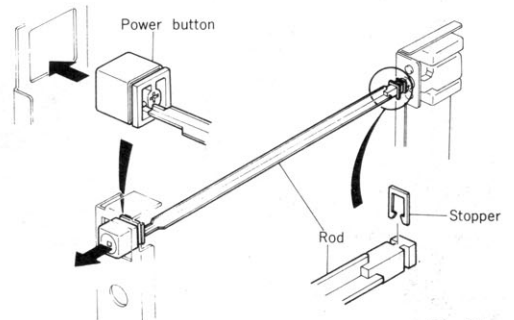

Fig. 24
- 1) Remove mounting stopper, and pull out rod (power switch). (Refer to Fig. 24)